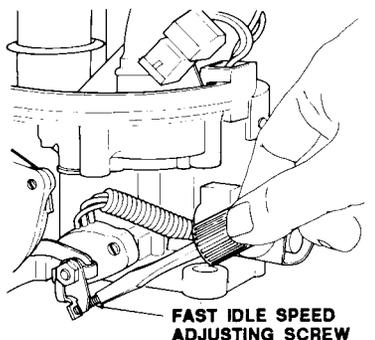

Figure F050-5
- e. Place the fast-idle cam on the highest step (Figure F050-5).